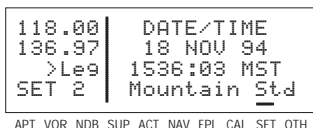

Figure 3-158
1. Select the SET 2 page (figure 3-158).